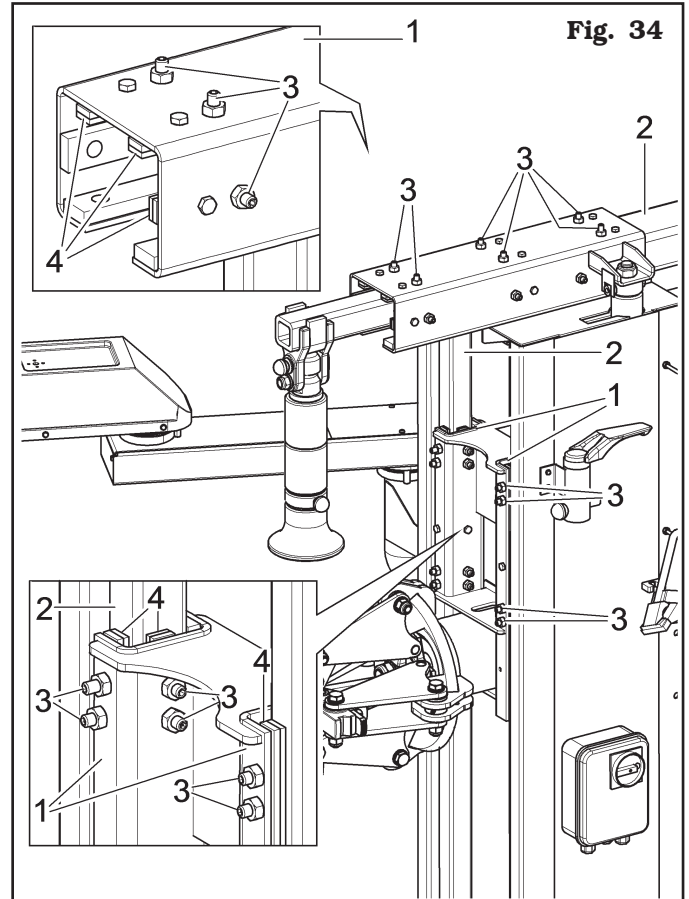

Fig. 34
B. Check periodically and, if necessary, adjust the play of slide (Fig. 34 ref. 1) on guide plates (Fig. 34 ref. 2) using the adjustment bolts (Fig. 34 ref. 3) of sliding blocks (Fig. 34 ref. 4).